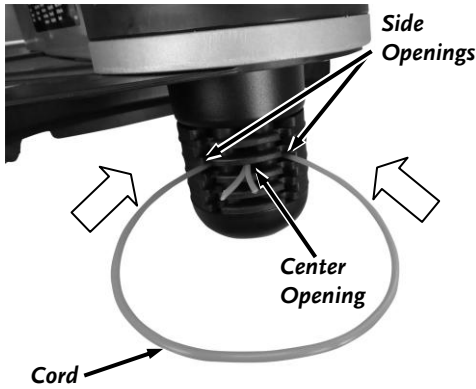

Figure 12
1. Insert the ends of the Cord into the side openings in the Line Plate (**Figure 12**).